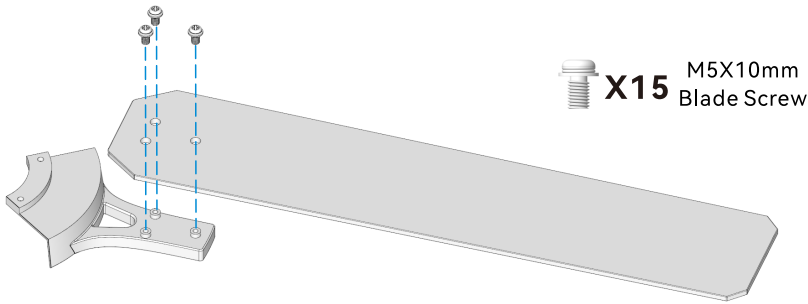

Fig. 1.1
1.1 Locate the 15 blade attachment screws included in the hardware pack. Use these screws to firmly attach each blade to the blade bracket, as demonstrated in Fig. 1.1.